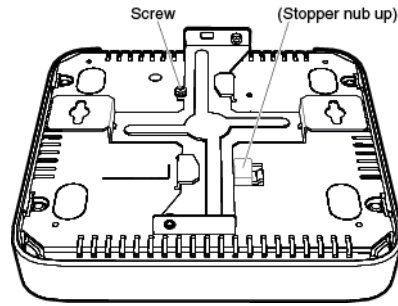

Figure 8. Attaching the Mounting-Bracket Screw
4. Attach the mounting-bracket screw through the notch in the mounting bracket to the access point, as shown in Figure 8 on page 26: The bracket is fastened to the access point.